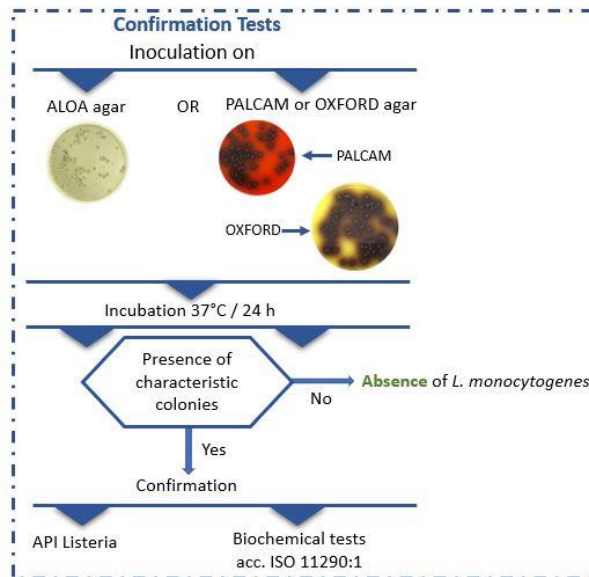

FIGURE 2 CONFIRMATION TEST PROCEDURE
5. In case of **Positive** result, proceed to confirmation tests (**Figure 2**).